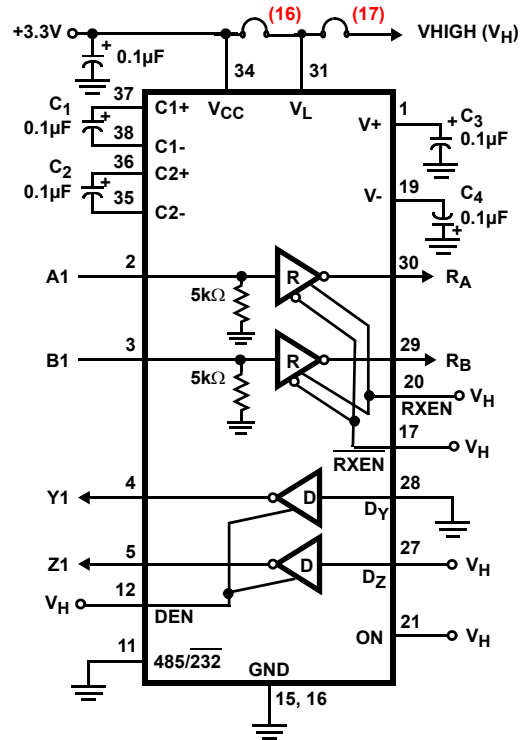

FIGURE 1. DEFAULT RS-232 CONFIGURATION
“A2 (485/232)” (7) to the “LOW” position. If RS-485 termination resistors (“R7” or “R9”) were added, ensure that they have been removed. Note that the RS-232 data rate is fixed at 400kbps, so the “SPB” (9) jumper has no affect (connect it high to minimize SHDN I_{CC}), and that the “SLEW” pin becomes the second driver input, DZ. Figure 1 illustrates the ISL3331 configuration in this mode.
In the default configuration of Figure 1, RB (measure at the “RA1 (RB)” test point to the left of jumper (14)) and RA (measure at the “RB1(RA)” test point to the right of jumper (1)) are high due to the A1 and B1 5kΩ input resistors to GND.